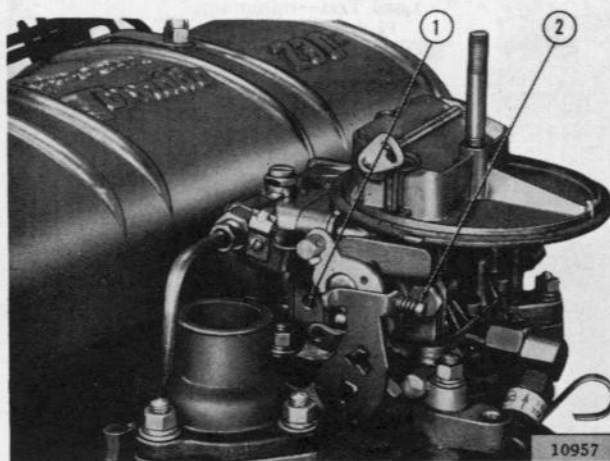

FIG. 69—CARBURETOR
a. Set the engine idle speed with adjusting screw (2, Fig. 69). Do not set the engine idle below 590 rpm.
b. Adjust the idle mixture adjusting screw (1), to provide smooth idle. For richer mixture, turn the screw out; for leaner mixture, turn the screw in.
**Note:** There are two sides to adjust. Fig. 69 shows one side only.